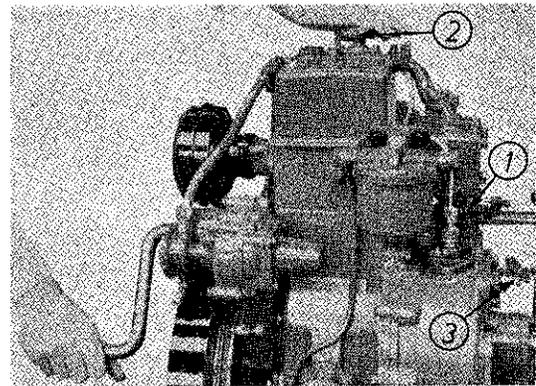

Fig. 11
2. Turn decompression lever on valve cover (fig. 11, item 2) clockwise as far as possible.